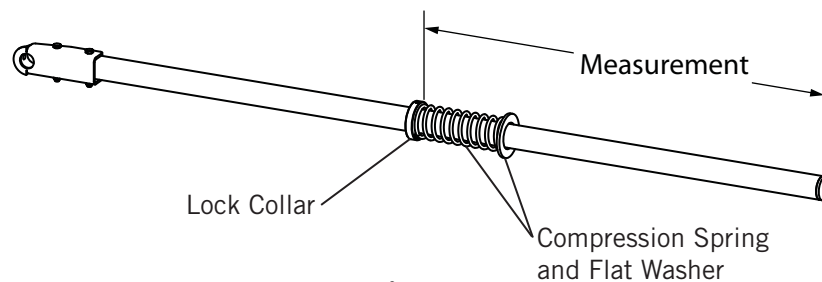

Figure 9
5) See Figure 9. Install and tighten the upper lock collar (3) on the swing-arm assembly at the transferred measurement. Slide the compression spring (5) and 2" washer (6) onto the rear swing-arm assembly (2).